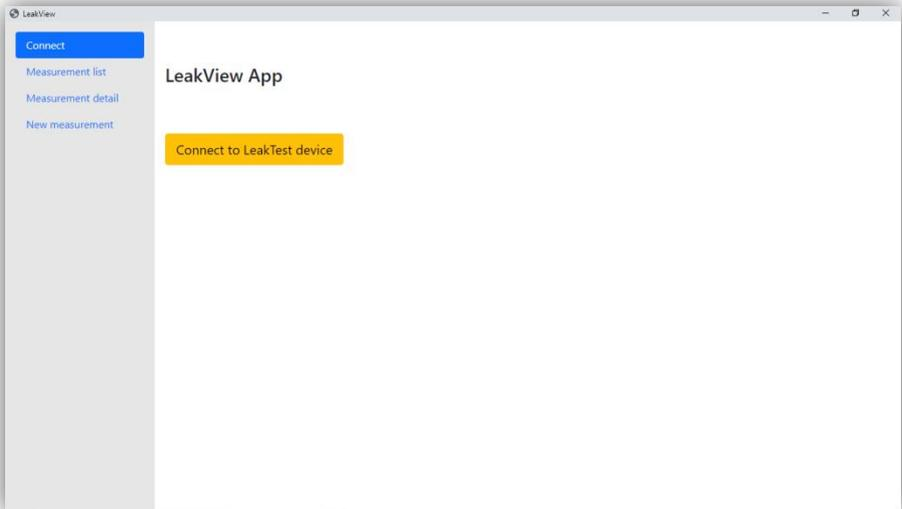

Fig. 3: The LeakView home window
2. In the LeakView application, click the „Connect to the LeakTest device“ button (Fig. 3).